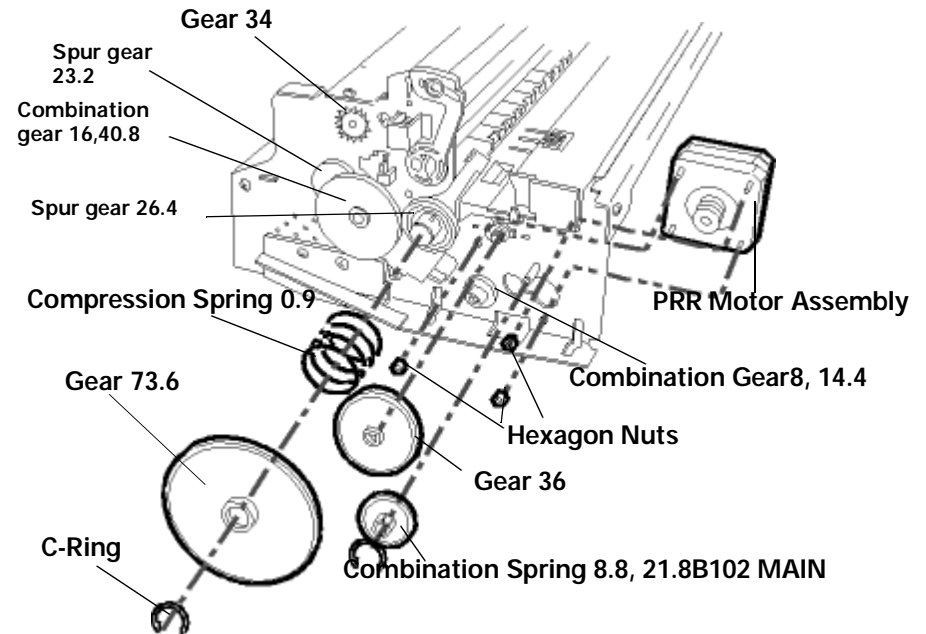

Figure 4-5. Removing the PF Motor Assembly
- When disassembling the PF motor assembly, pull the motor assembly out of the frame a little bit and remove it, sliding it into a larger hole in the frame. (See Figure 4-5.)